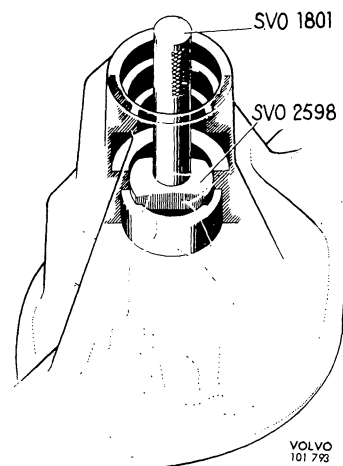

Fig. 4-137. Removing rear pinion bearing race
9. If necessary, drive the rear bearing out of position, see Fig. 4-137. Use standard handle SVO 1801 and drift SVO 2598.